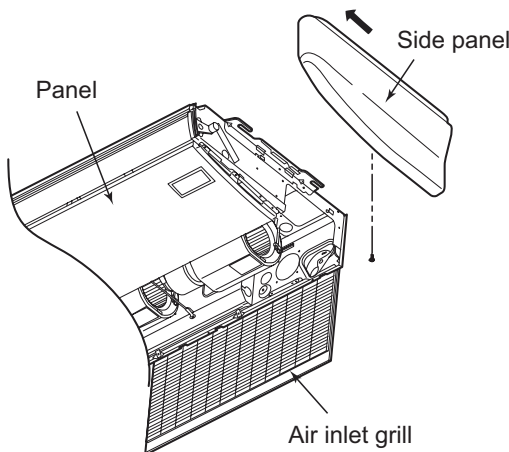

Fig. 1-223
- 1 Open the air inlet grill on the side panel. Remove the 1 screw and move it toward the front (in the direction of an arrow) to remove it. (Fig. 1-223)